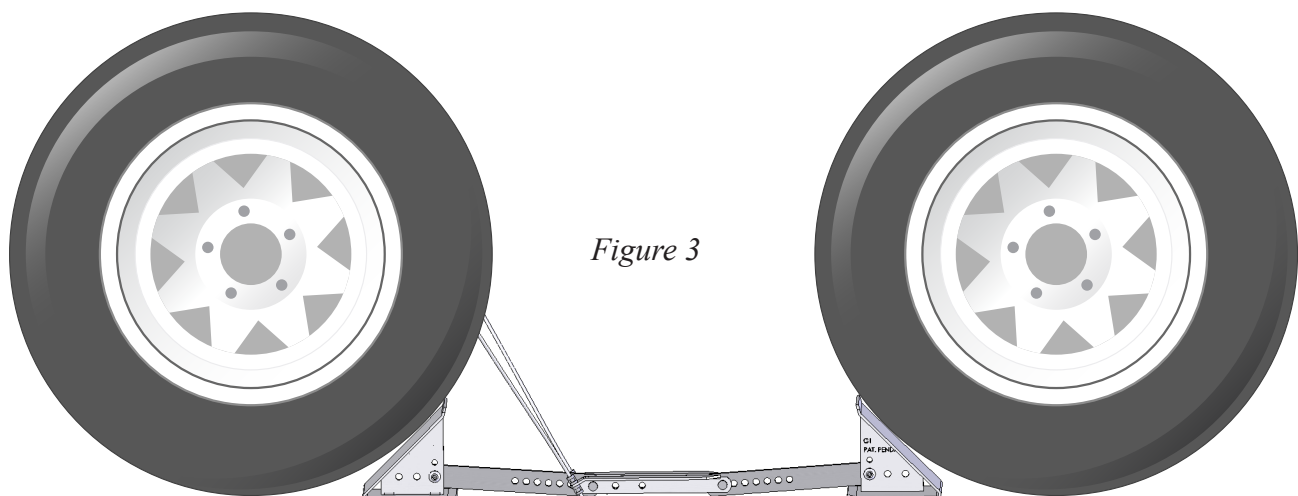

Figure 3
6) Place the chock between the tires again. It should fit snugly between the tires, with the center arms not dropping all the way to the ground. Step down on the center arms to lock the chock into place. Pull up on the cable handle to remove the chock. See Figure 3.